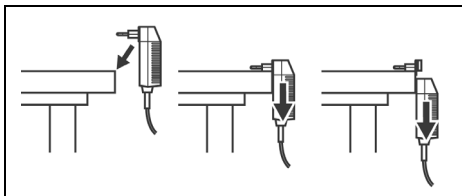

Fig 5 SNT-121A: Changing the AC line plug adapter.
- Place the SNT-121A against the edge of a table or bench as shown (see Fig 5).